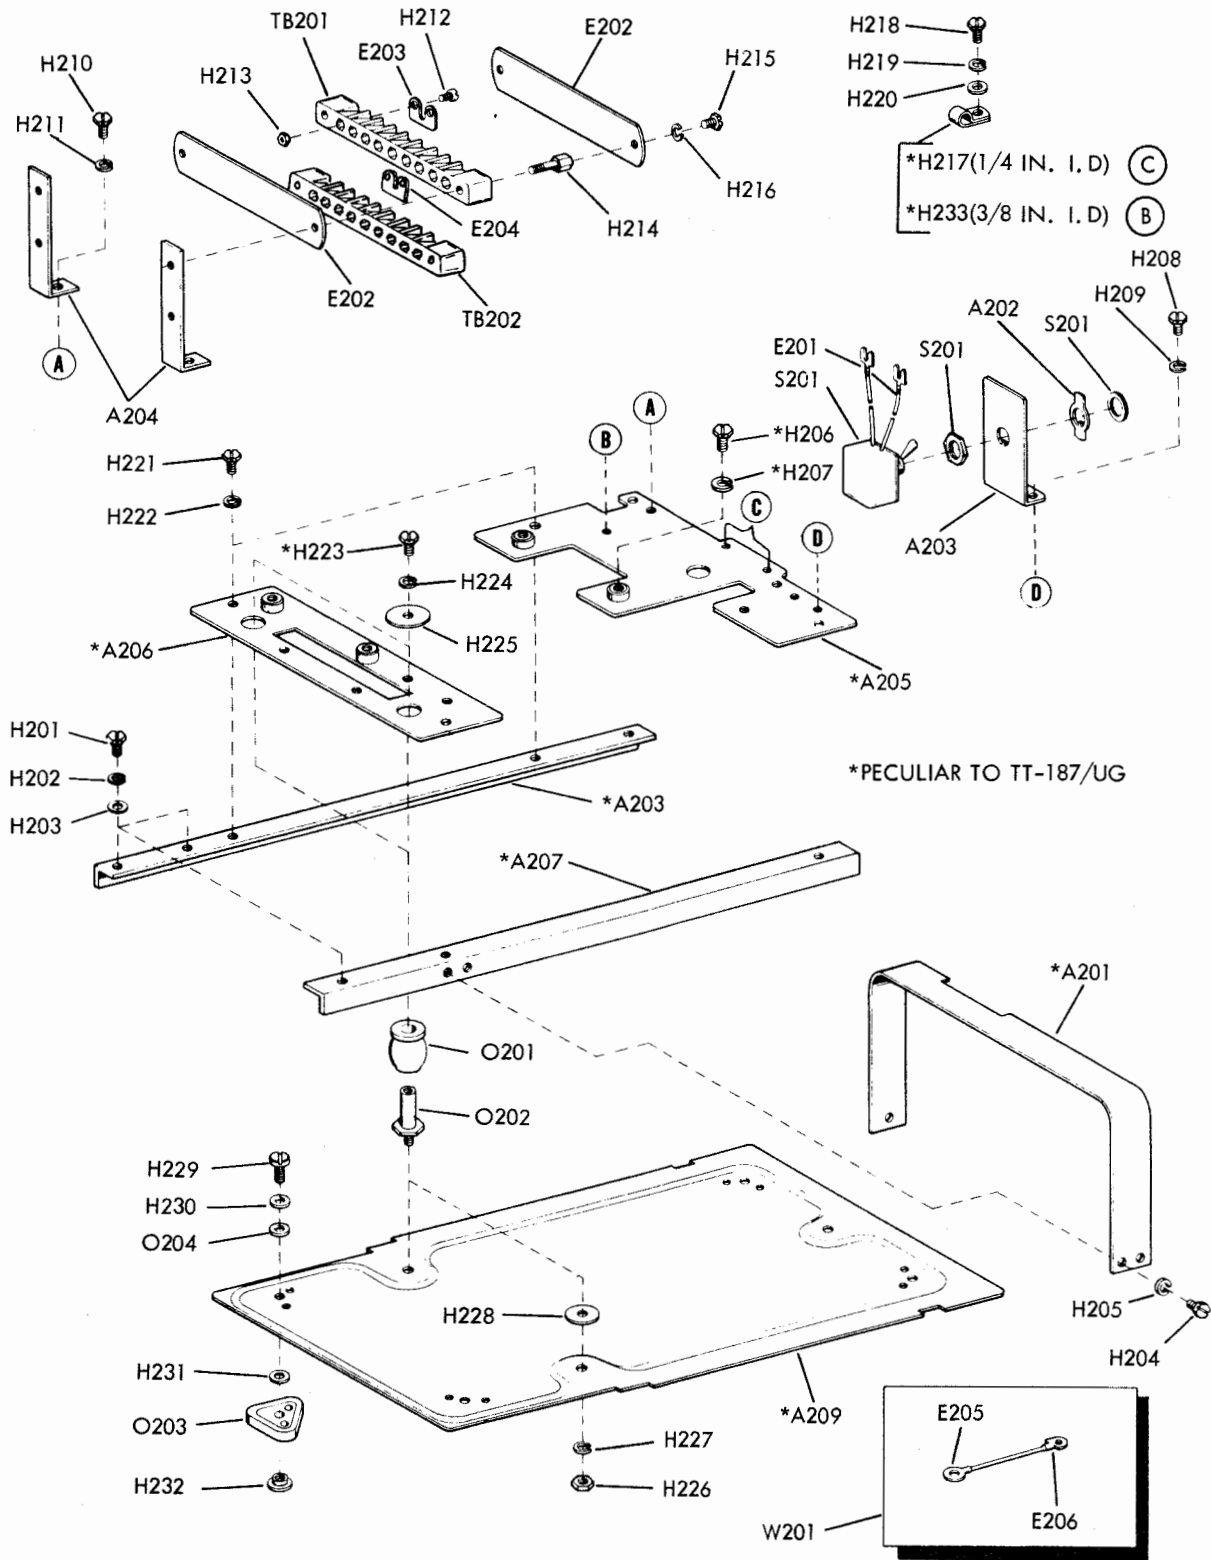

Figure 6-2. Base Assemblies
e. BASE. (See figures 6-2 through 6-4.) — Remove the cover, motor and distributor-transmitter (paragraphs 6-3b through 6-3d). Disconnect external cable connections to terminal board TB202.
(1) TT-187/UG. (See figures 6-2 and 6-4.) — Remove two screws, lock washers, washers and cable clamps H218, H219, H220 and H217 to separate signal and power input cables from the base. Remove the intermediate gear assembly, disassembling as shown in figure 6-4. Disassemble the base as indicated in figure 6-2.
(2) TT-187/UG. (See figures 6-3 and 6-4.) — Remove the intermediate gear assembly, disassembling as shown in figure 6-4. Disconnect cable W302 from terminal boards TB201 and TB202, and remove the line shunt switch S311 and connector P301 as shown in figure 6-3. Disassembly of the base is as indicated in figures 6-2 and 6-3.
(3) Reassemble the base in the reverse order of disassembly.